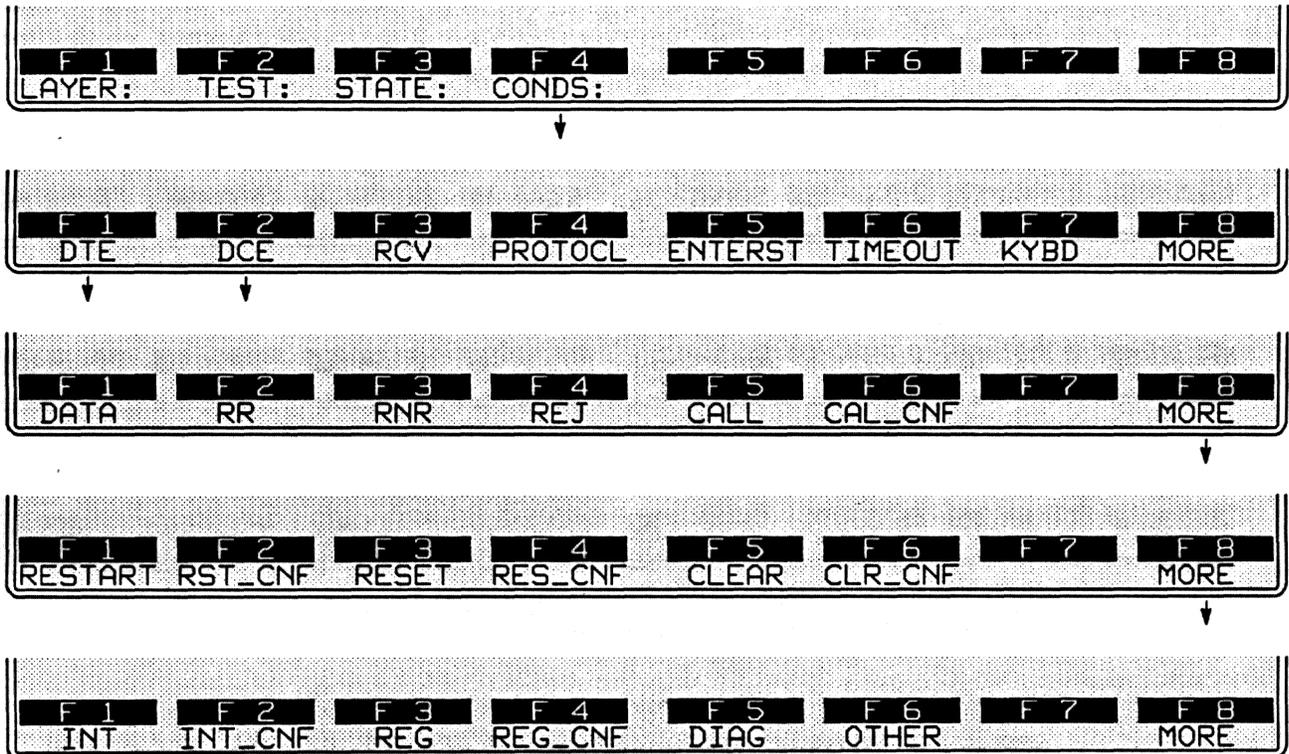
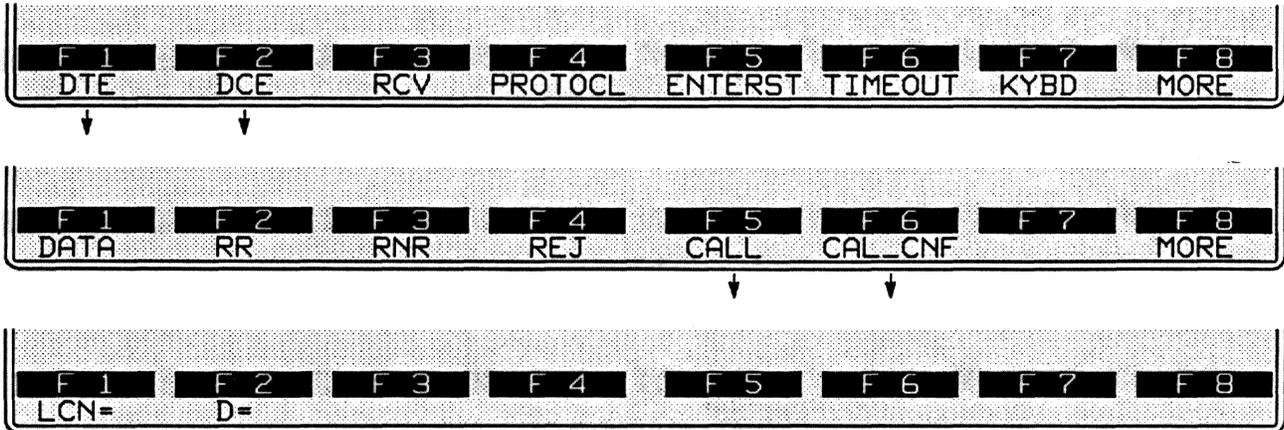
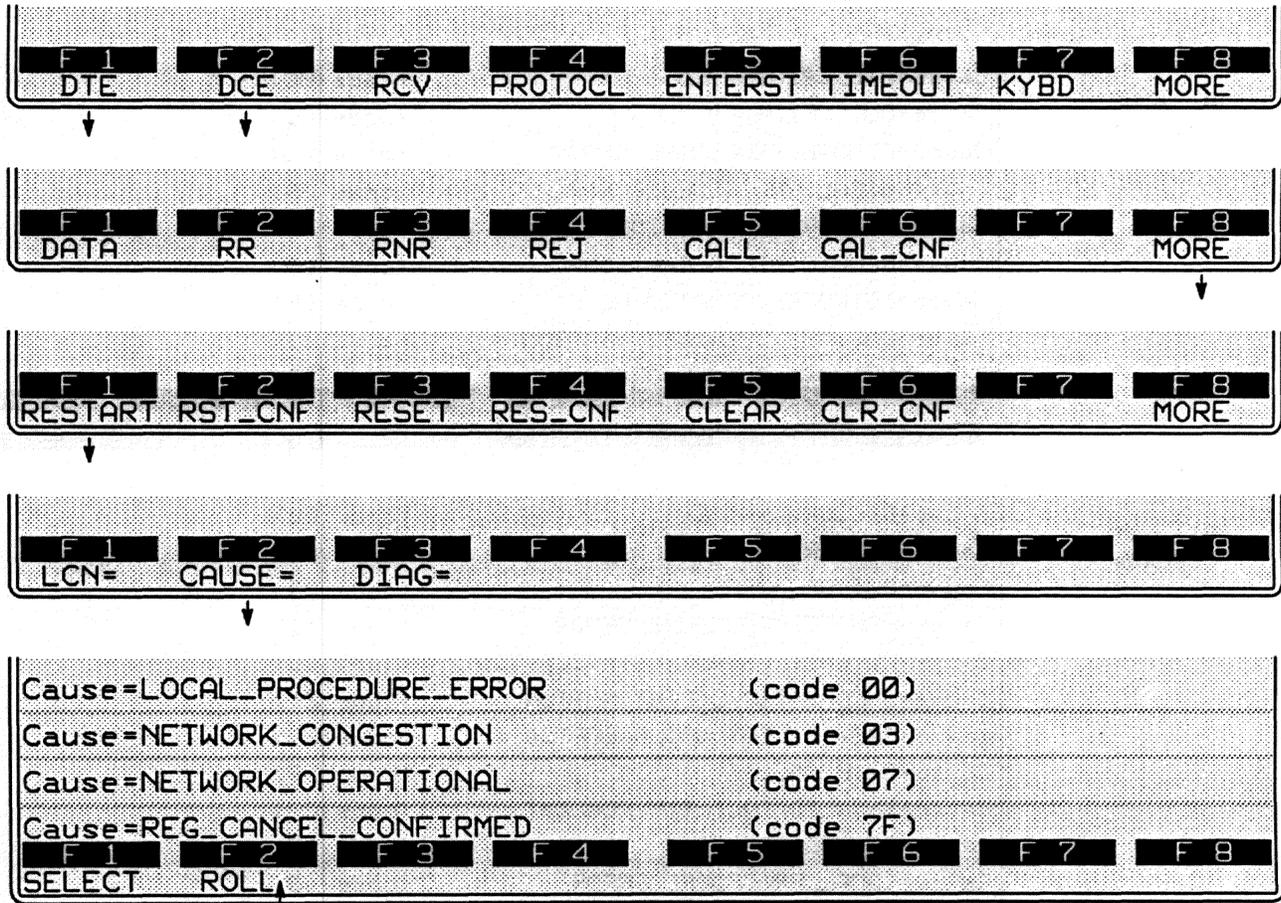

Figure 34-10 Packet types.
Figure 34-13 Conditions that look for Call and Call Confirm packets also can test for LCN and D-bit values.
Figure 34-14 A Restart packet may be tested for one of these four causes.
The softkeys for data, supervisory, unnumbered, and “other” packets are illustrated in Figure 34-10.
The thirteen unnumbered packet types are laid out consecutively from CALL to DIAG on the softkey racks in Figure 34-10. Because these packets lack P(R) and P(S) sequence numbers, they are constructed identically for MOD 8 and MOD 128.
All unnumbered-packet conditions may be made specific to a particular LCN. Call and Call Confirm conditions may specify a D-bit value (Figure 34-13). Restart, Reset, Clear, and Registration Confirm conditions may optionally test for causes and diagnostic codes (see Figure 34-14, Figure 34-15, and Figure 34-16). Diagnostic packets (F5 on on the bottom rack of softkeys in Figure 34-10) also may specify a diagnostic code.
4. *Other packets.* Any packet type may be entered as a hexadecimal value instead of by name. Press the softkey for OTHER. (See F6 in the bottom rack of softkeys in Figure 34-10.) Then enter the hex byte in the form of two alphanumerics. Here, for example, is a Clear Request entered as a hexadecimal:
A D-bit value also may be specified for Call and Call Confirm packets: see Figure 34-13.
1. **Cause.** The names of causes as well as their hexadecimal values are indicated on the softkey-prompt line near the bottom of the Protocol Spreadsheet screen. To specify a particular cause, the user does not have to memorize cause codes or consult a table. He simply presses **[F2]**, ROLL, and repeats the keystroke to cycle through the list of cause names for a given packet type. Figure 34-14 shows the cycle of causes that pertain to Restart packets. The user presses **[F1]**, SELECT, when the right cause has “rolled” onto the prompt line. The SELECT softkey writes the current cause onto the spreadsheet screen.